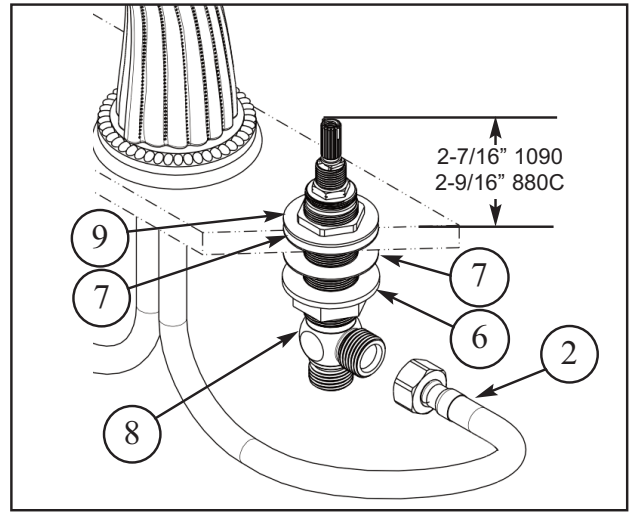

Figure 2
2. Place NUT (9) and WASHER (7) on valve BODY (8). Insert BODY (8), (blue cold & red hot), through hole in the mounting surface. Adjust and secure with additional WASHER (7) and flange NUT (6) so that the top of valve is 2-7/16" (1090) & 2-9/19" (880C) above top of mounting surface. Before tightening down NUT (6), check HANDLE (13) alignment by placing onto Valve (8). Any adjustments for rotational alignment must be made to the valve BODY (7), not to the cartridge. See Figure 2.
3. Connect HOSE (2) to outlet of each valve BODY (8). Hand tighten and secure each HOSE (2) with a wrench 1/4 turn. See Figure 2.